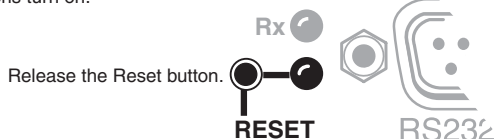

Figure 3-71 — Hard reset
2. Press and **hold** the Reset button on the rear panel **while** you apply AC power to the switcher (figure 3-71).